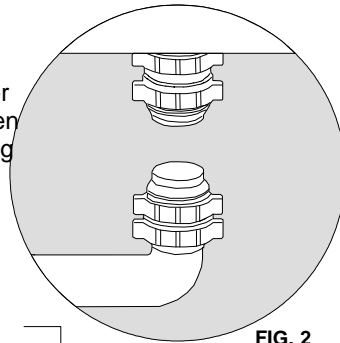
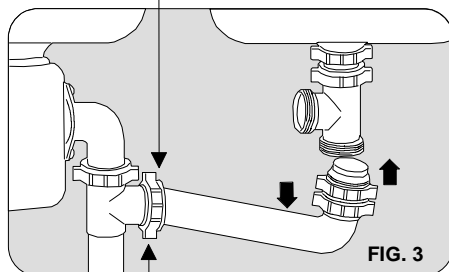

FIG. 2
FIG. 3
3. Slip the nut and beveled washer over both ends of the pipe. Always face the beveled side of the washer towards the fitting. (See Fig. 2) Then insert the 3-way repair tee, ensuring that the tube ends seat fully into sockets of the tee. This may be accomplished by loosening the nut joining the horizontal waste ell to the baffle tee until there is enough play to bend the waste ell down, then up into the bottom of the 3-way repair tee. (See Fig. 3)